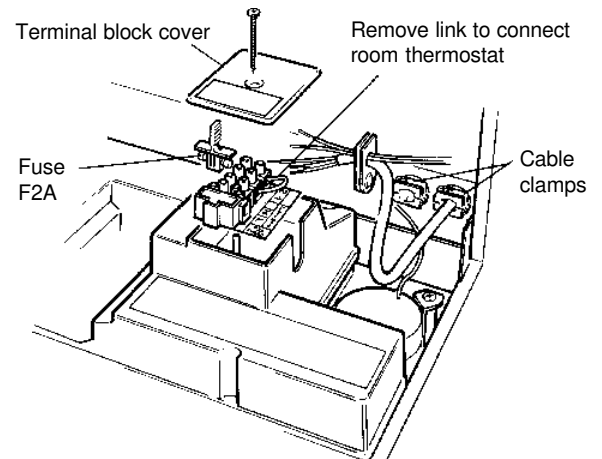

Fig. 14
4.8 CONNECT THE MAINS SUPPLY - Fig. 14
- Remove the screw securing the terminal block cover from the back of the control box (see Fig. 14). Pass the mains supply cable through the cable clamp and connect as follows:- Brown to L, Blue to N and Green/Yellow to $\equiv$. Ensure correct polarity.